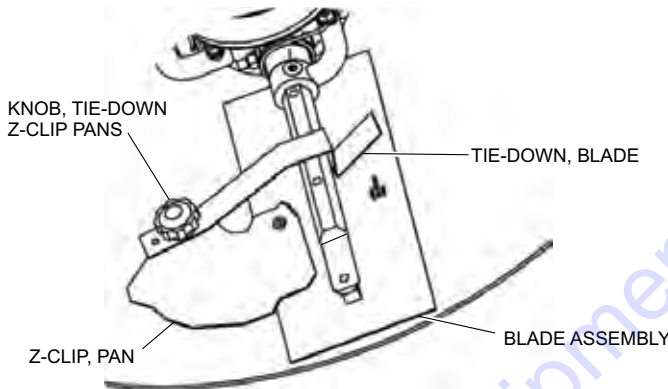

Figure 69. Z-Clip Finisher Pan Installation
Refer to Figure 69 when installing pans onto finisher blades.
3. Attach the blade tie-downs to the far side of the Z-Clip brackets with tie-down knobs as shown in Figure 69.